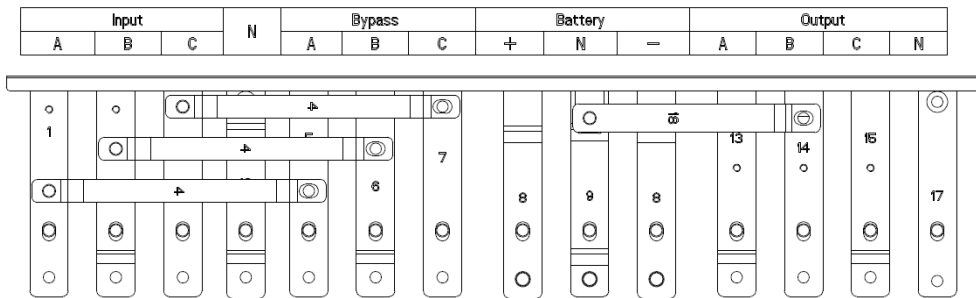
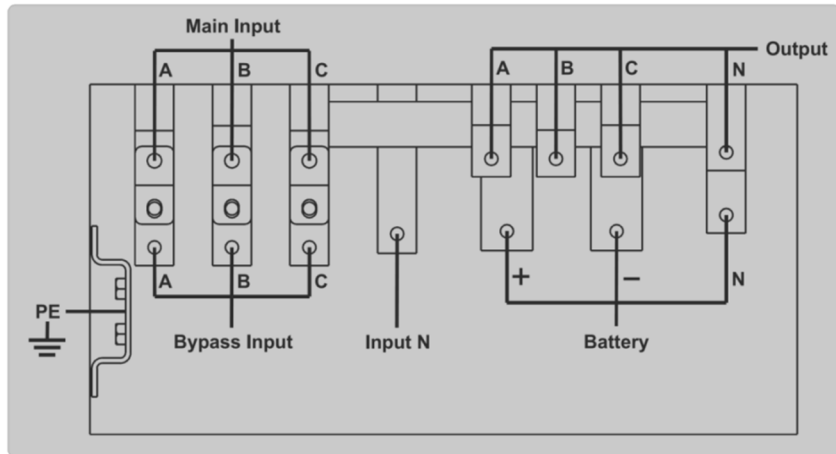
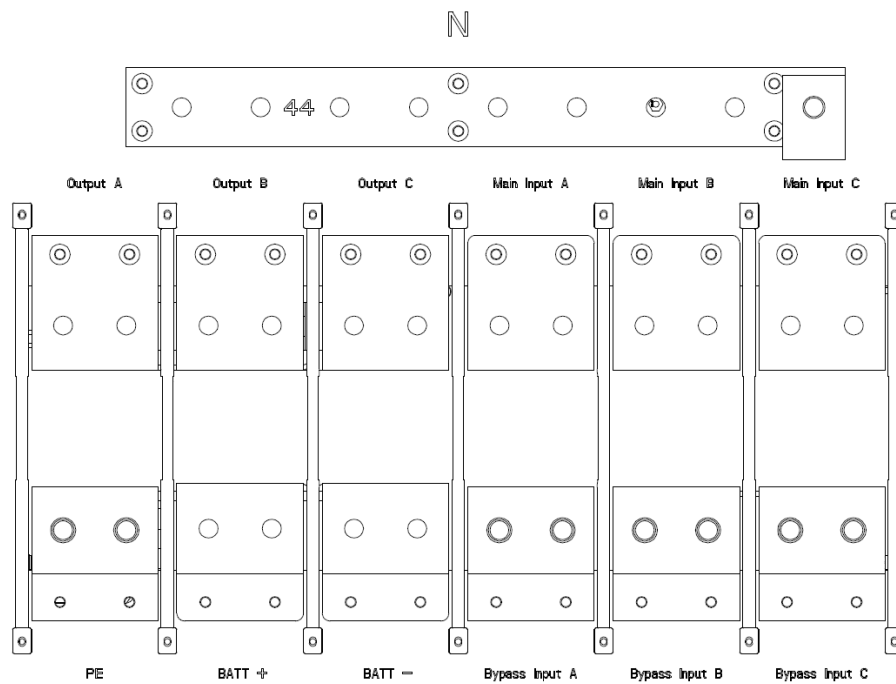

Figure 2-15 80kVA/100kVA UPS connection terminals
Figure 2-16 150kVA/200kVA UPS connection terminals
Figure 2-17 250kVA/300kVA UPS connection terminals
- 2) Open the door of the cabinet (the front door for 80k/100k/150k/200k UPS; the back door for 250k/300k/400k/500k UPS), remove the metal or plastic cover. The input and output terminal, battery terminal and protective earth terminal are shown in Figure 2-15, Figure 2-16 and Figure 2-17.